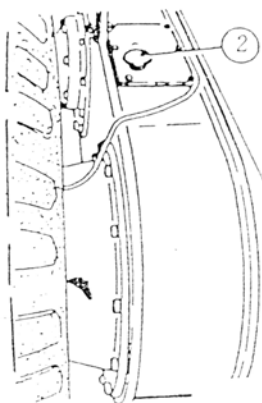

Fig. 32-1
3. Unscrew the breather (Fig. 32-1) and fill with new oil to the middle of the sight glass maximum oil level.
4. Screw in the breather (Fig. 32-1) and tighten it .
2. Fill up oil after taking off the breather (Fig.32-1)